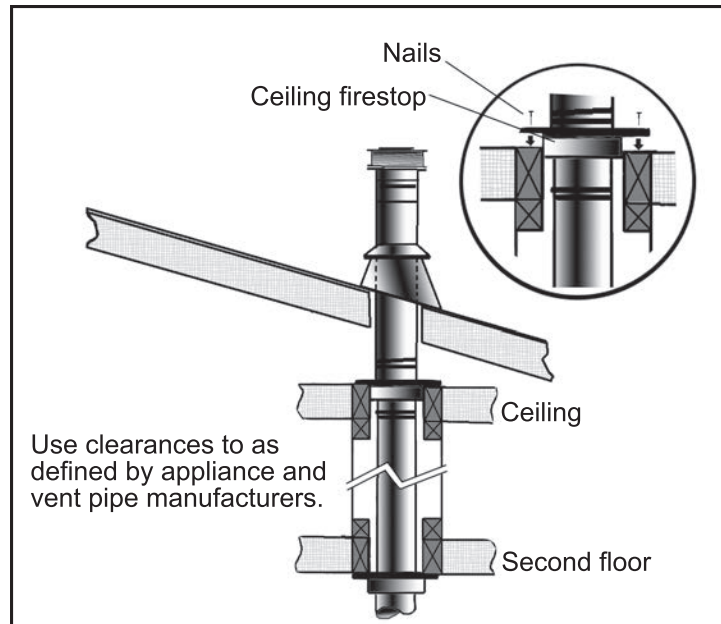

**Figure 34: Use of Wall Straps.**
- (1) If an offset is necessary in the attic to avoid obstructions, it is important to support the vent pipe every 3 feet (914 mm), to avoid excessive stress on the elbows, and possible separation. Wall straps are available for this purpose (see Figure 34).
- (2) When ever possible, use 45° degree elbows instead of 90° degree elbows. The 45° degree elbow offers less restriction to the flow of flue gases and intake air.